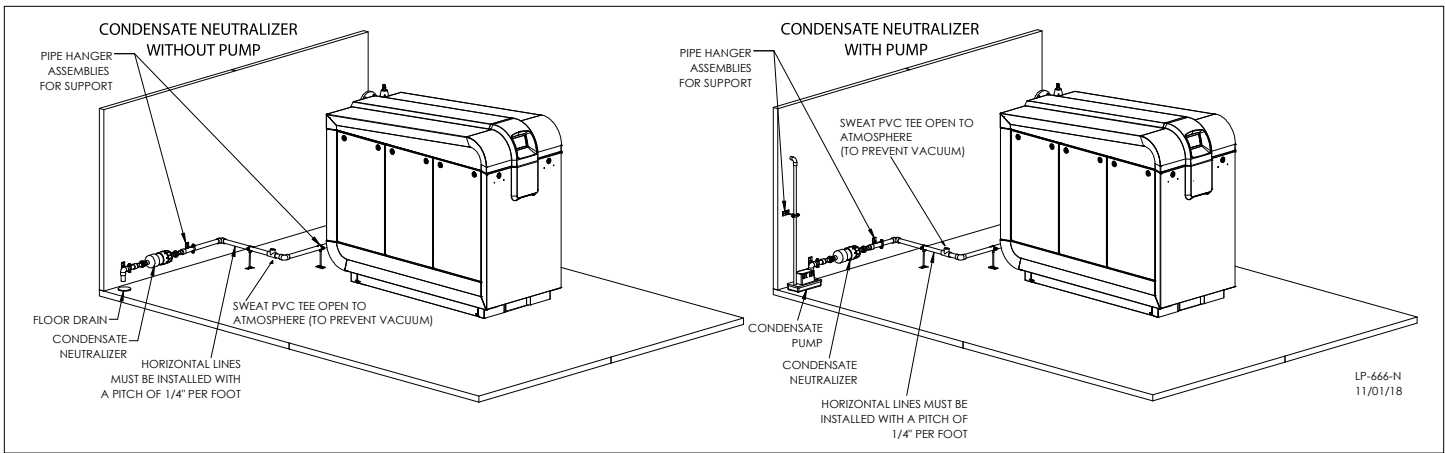

Figure 28 - Condensate Piping
8. Local building codes may require an in-line neutralizer to be installed (not included) to treat the condensate. See Figure 28. If required by local authorities, a condensate filter of lime crystals, marble, or phosphate chips will neutralize slightly acidic condensate (p/n 7350P-611 available from HTP). Follow all the installation instructions included with the neutralizer. If a neutralizer is installed, periodic replacement of the limestone (or neutralizing agent) will be required. The rate of depletion of the limestone varies with usage of the boiler. During the first year of boiler operation, check the neutralizer every few months for depletion.